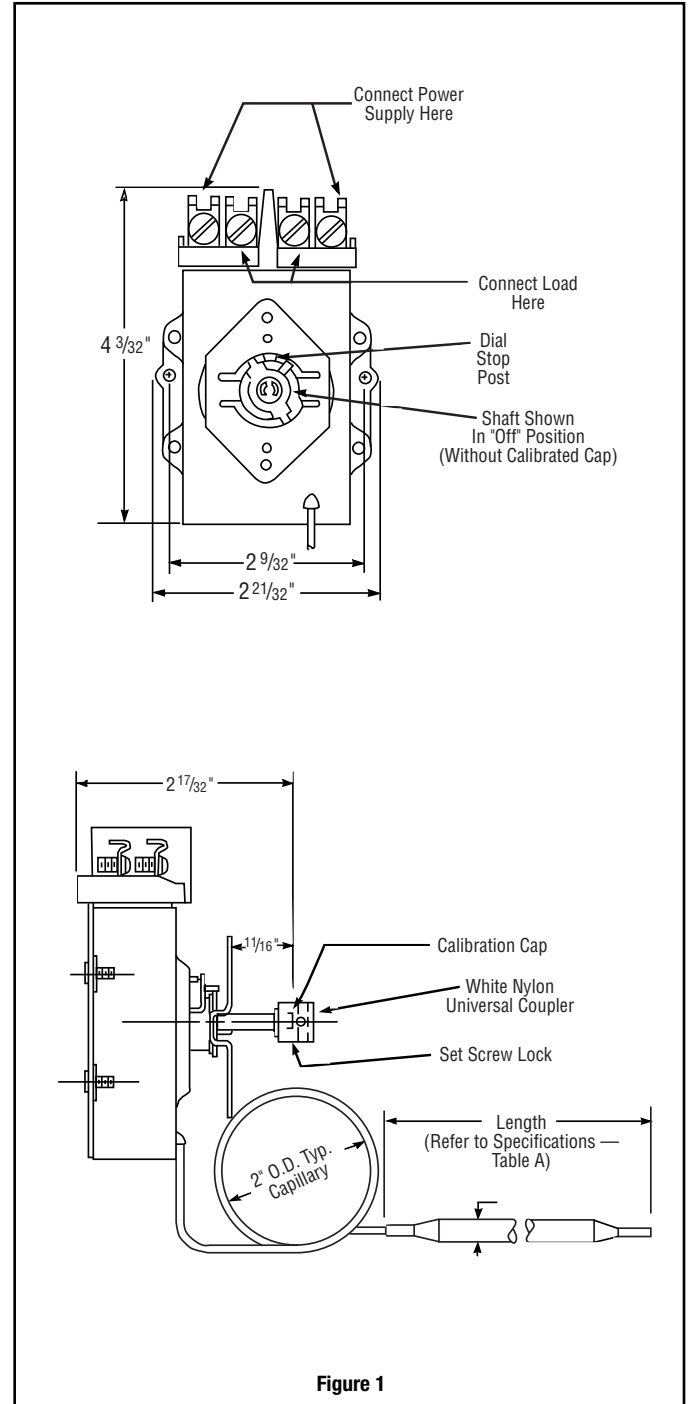

Figure 1
4. Remove the thermostat mounting screws (2).
7. Remove the calibration cap (Figure 1) and insert pin from the old thermostat. Rotate the position of the calibration cap, for use in the next step.